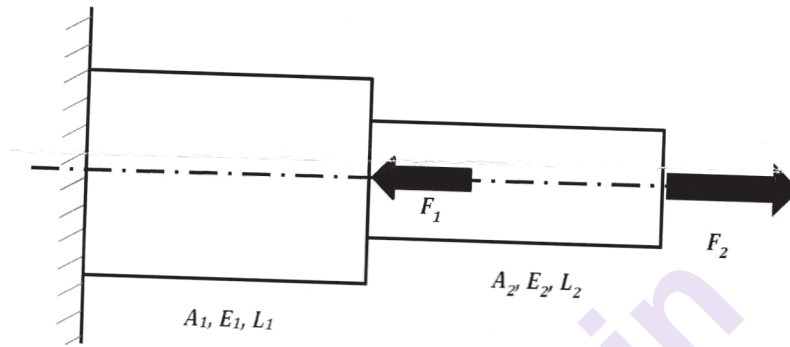

Figure 1: Qu 4
**Q4)** An axial stepped bar as shown in Figure 1, is axially loaded by force  $F_1 = 20\text{ kN}$  and  $F_2 = 15\text{ kN}$ . Assuming  $E_1 = E_2 = 210\text{ N/mm}^2$ ,  $A_1 = 150\text{ mm}^2$ ,  $A_2 = 100\text{ mm}^2$  and  $L_1 = L_2 = 300\text{ mm}$ , determine deflection, stresses in elements and reactions at nodes. **[10]**